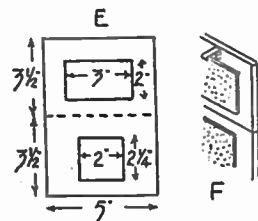

Fig. 3
Cut a second piece of cardboard a little larger than the television opening. This should have a white surface, and be covered with clear cellophane. Fasten this behind the opening with a few fine nails, and file off any points which may protrude through the wood. Some may like to introduce a photo between the cardboard and cellophane. Cut the top of the box, which should also cover the top edge of the front as well. In the centre, saw out a slot for contribution to expenses to slip through, and nail and glue over. A small piece of thin metal is screwed to the door front, as shown at (F) in Fig. 3 to keep the door from falling down—act as a catch, in fact. This can be made up from a terminal off an exhausted dry battery, and is nailed or screwed where shown, and bent over at right angles to press
The front of the box (E) Fig. 3 is cut to the dimensions given. The two openings are sawn out, and the outer edges of the openings bevelled a little, or neatly rounded off, as preferred. Saw the front into two halves across the dotted line, and then hinge both together with a pair of those cheap fancy hinges so easily fixed to the face side.